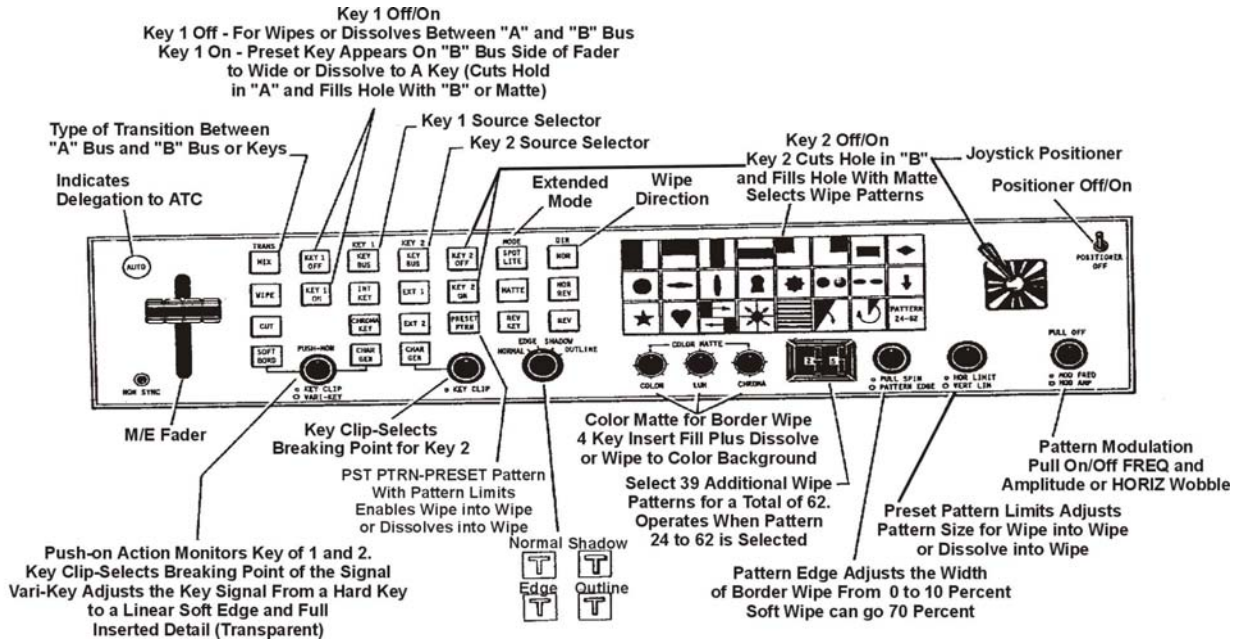
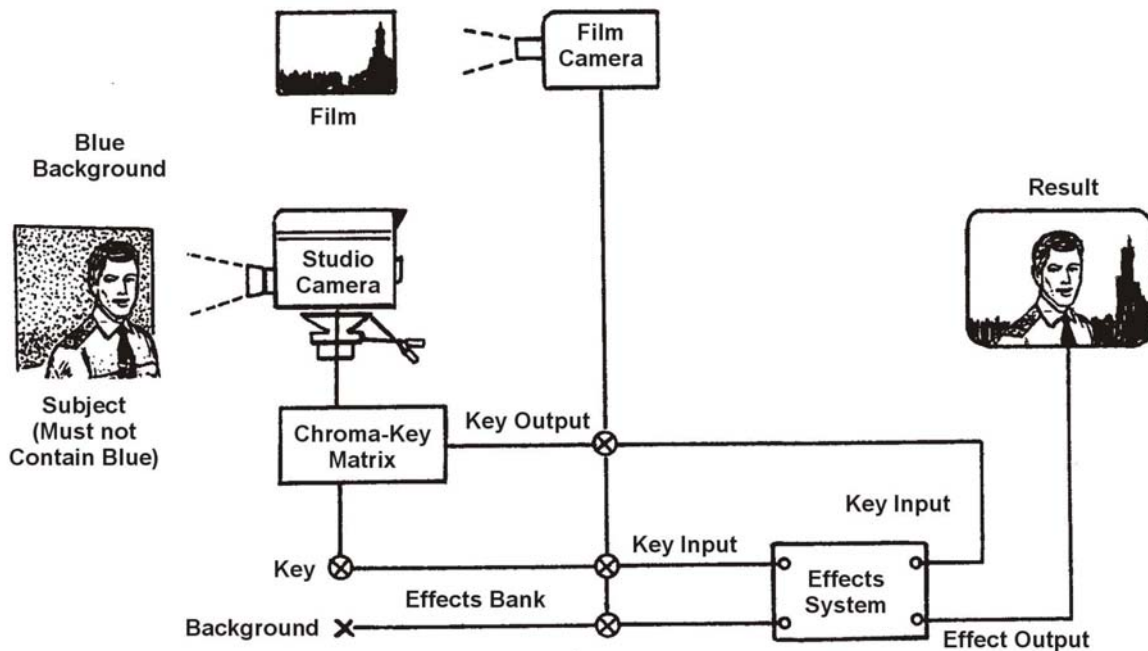

Figure G-2. M/E Control Unit
Figure G-3. Principle of Chroma Key
c. Almost all installations now include M/E equipment as an integral part of the switching system. Figure G-2 is an example of a single M/E control panel. When turned on, the joystick allows the operator to place a pattern in any position desired. Other functions you might find on the equipment are:
(1) Flip-flop mixing. The flip-flop mixer always dissolves from the program to the preset bus, thus permitting the next selection to be on the preset to program and the last selections on program to preset.
(2) Automatic transition control. The automatic transition control (ATC) produces a precision control for wipes, fades, and dissolves and may be delegated to one or more M/E and mix units simultaneously.
(3) Chroma key. The chroma key is more satisfactory for color operation than a key that works only by luminance differences. In chroma key, the red, green, and blue channels of a specific camera are combined to form a single keying signal. The unit separates a selected saturated color from all other colors. Figure G-3 illustrates a simple example of the use of chroma key.